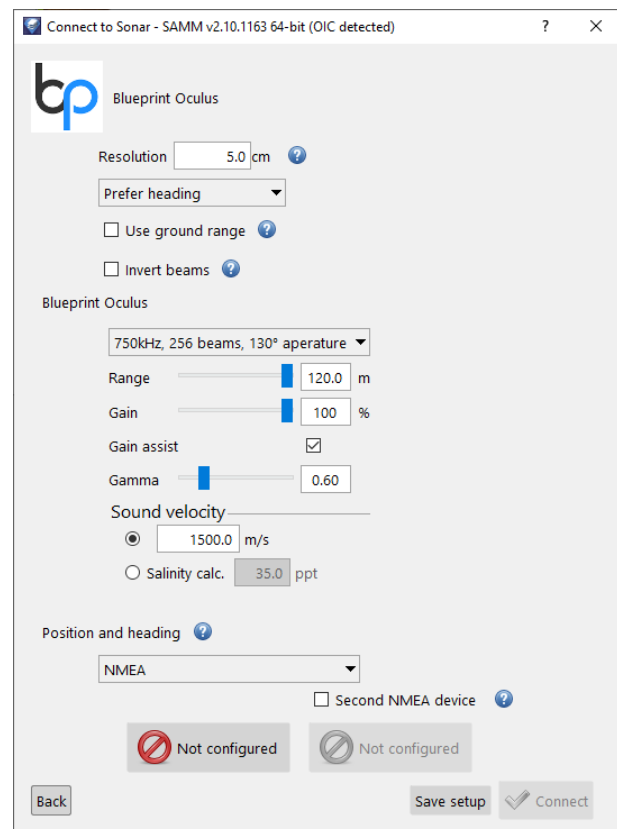

Figure 50. Oculus Interfacing
6. In the Connect to Sonar window (Figure 50), set processing and sonar parameters as necessary. Please consult the sonar manuals for the sonar specific settings.